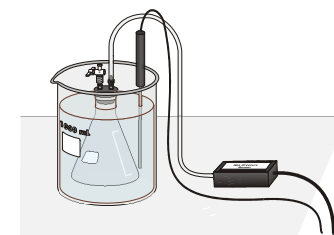

Figure 2
- The stopper can then be inserted into a flask or test tube to provide an airtight container to investigate a confined gas, as shown in Figure 2. **Note:** The second valve on the rubber stopper is shown in a closed position.